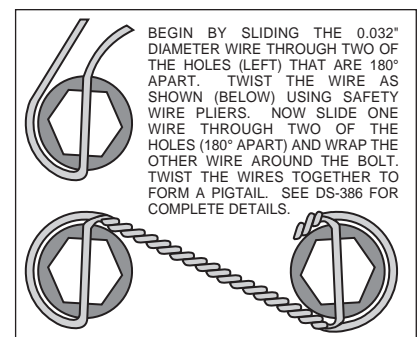
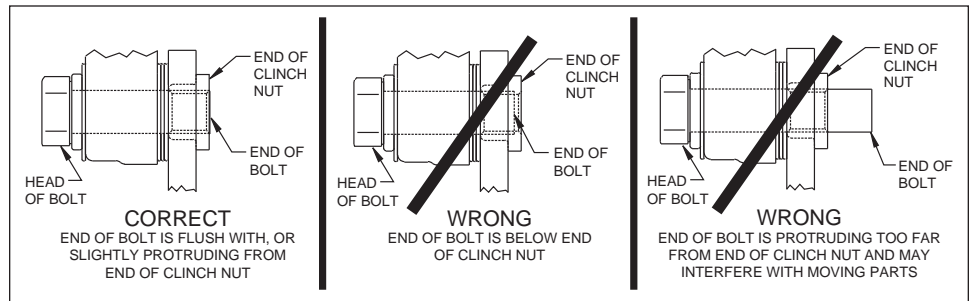

Figure 4. Safety Wire Diagram
Figure 5. Clinch Nut Engagement Diagram
Assembly Instructions (numbers in parenthesis refer to the part list/diagram on the preceding page): **CAUTION:** All mounting bolts must fully engage insert nuts. Be sure to check that all bolts are either flush or protruding through flanged side of insert nut after shimming, Figure 5.
- With the slot pointing upward and the mounting ears pointing towards the rear of the vehicle, install the caliper mounting bracket (1) to the housing flange using the stock Original Equipment Manufacturer (OEM) bolts and nuts. Stock OEM hex nuts that retain the bracket (1) should be on the wheel side of the bracket. Apply red *Loctite*® 271 to the stock OEM bolt threads and torque to OEM specifications. **NOTE:** Some brackets act as the bearing retainers, while others help locate the bearing in the axle housing flange. If the stock bearing plates are still on the axle, the caliper mounting brackets (1) should be located between the axle housing flange and the bearing retainer plate. Make sure the heads of the caliper mounting bracket insert nuts are FACING OUTWARD TOWARDS THE WHEEL.
- Bolt the hat (2) to the rotor (3) using washers (4) and bolts (5). Torque bolts (5) to 180 in-lb. Safety wire bolts (5) using standard 0.032 inch diameter stainless steel safety wire as shown in Figure 4. Please refer to Wilwood's data sheet DS-386 for complete safety wire installation instructions.
- Align the correct hole pattern in the hat (2) with the stud pattern on the axle flange. **NOTE:** Some OEM and after market axles come with stud sizes larger than 0.50" diameter. Verify stud size and have a qualified machine shop drill the hats to the correct size. Slide the hat/rotor assembly (2 and 3) over the wheel studs and against the axle flange face.
- NOTE:** Please reference the caution statement at the beginning of the assembly instructions. WITH THE BLEED SCREWS POINTING UP, mount the caliper (6) over the rotor (3) and onto the caliper mounting bracket (1) using washers (7) and mounting bolts (8). View the rotor through the top opening of the caliper. The rotor should be aligned in the center of the caliper. If not, adjust the caliper by using 0.032 inch shim washers (9), placing them between the caliper mounting bracket (1) and the caliper (6). Add as many shim washers (9) as necessary to achieve the correct alignment. **NOTE:** The end of the bolt must be flush with or slightly protruding from the head of the clinch nut. See Figure 5. Place spare shims (9) between washer and caliper mounting ear to achieve the proper mounting fastener configuration. Always use the same amount of shims on both the top and bottom caliper mounting bolts (8). Apply red *Loctite*® 271 to the mounting bolt threads (8), torque bolts to 30 ft-lb. Safety wire the caliper mounting bolts (8).
- Position the Wilwood disc brake pads (10) into the caliper (6) and fasten with cotter pin (11). Steel backing plate side of brake pad should face the caliper pistons.